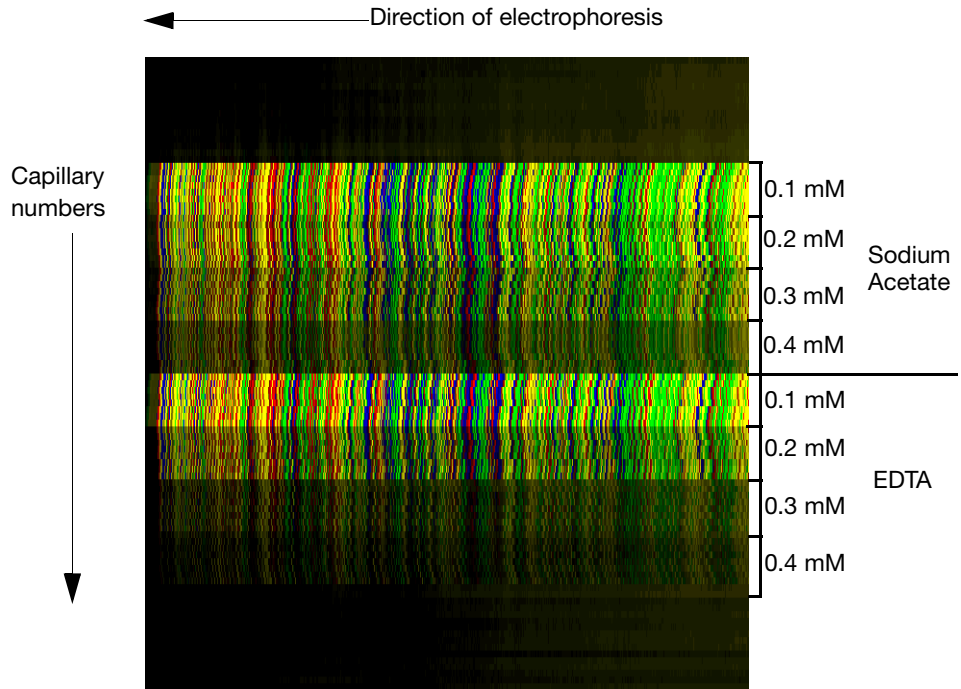

Figure 2-1 The effect of salt concentration during electrokinetic injection
**Effect of Residual Salts** Capillary electrophoresis is especially susceptible to salt in samples, either from template preparation, from cycle sequencing reactions, or from precipitation methods using salts. The negative ions in salts can be preferentially injected into the capillary array during electrokinetic injection, leading to lower signal. In addition, the negative ions compete and interfere with the injection of larger DNA extension fragments, leading to shortened read lengths. The capillary array view in Figure 2-1 shows the effects of increasing concentrations of salt, both the Sodium Acetate and EDTA, during electrokinetic injection.